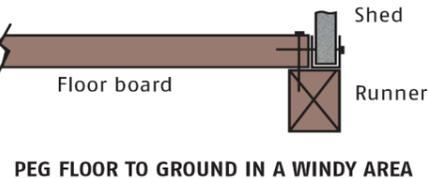

Fig 3
- 6th: Using your ladder and tape measure, fix down thru the top of the roof, thru the pan into the top channel of front and back walls. (10mm more than the overhang). Fix beside every 2nd rib. (Fig 3). You will not need to worry about these fixings leaking as any water seeping thru these fixings will end up on the outside of the walls.